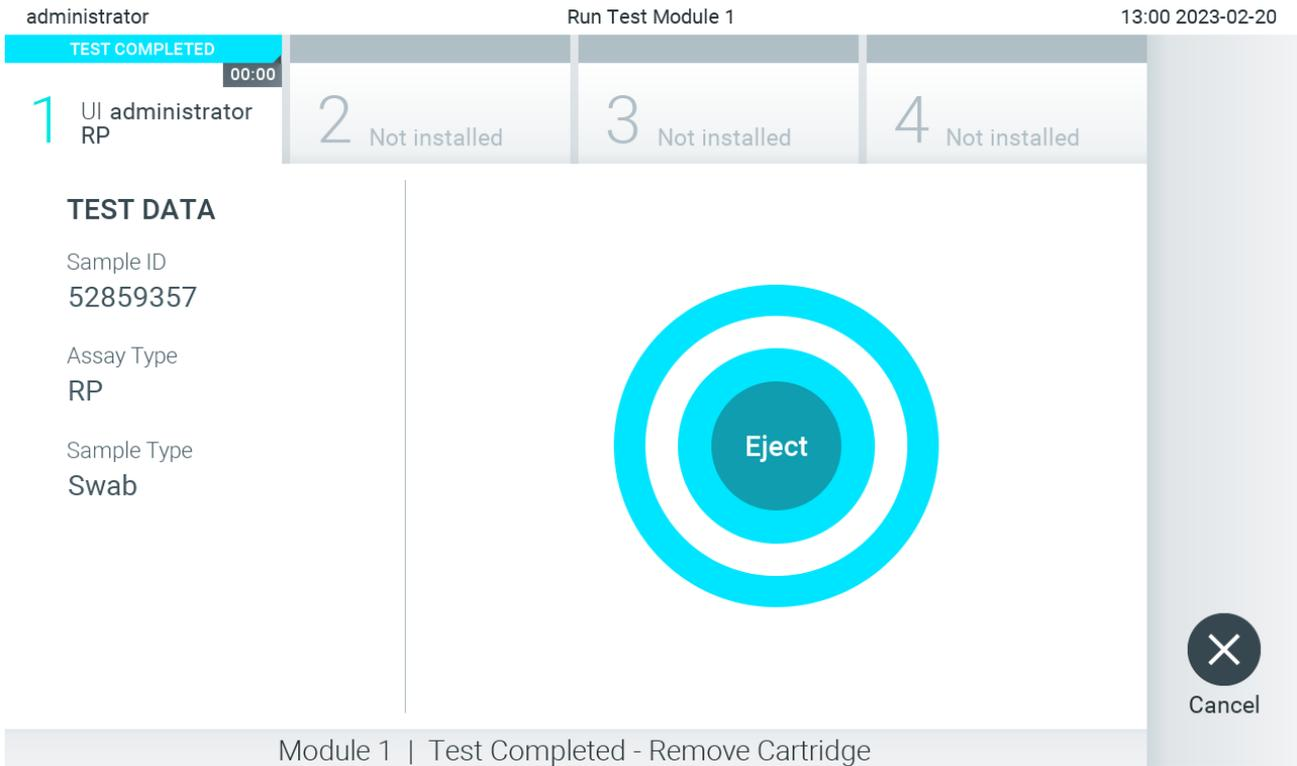

Figure 29. Eject screen display.
10. After the test run is completed, the **Eject** screen will appear ( Figure 29 ). Press  Eject on the touchscreen to remove the QIAstat-Dx assay cartridge and dispose of it as biohazardous waste in accordance with all national, state, and local health and safety regulations and laws.